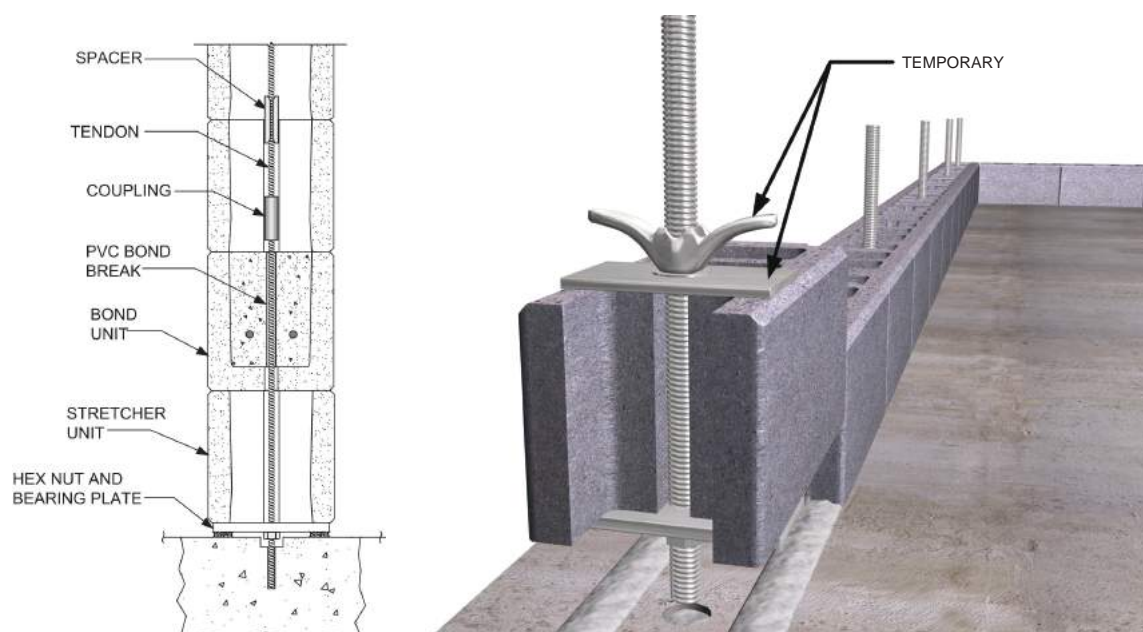
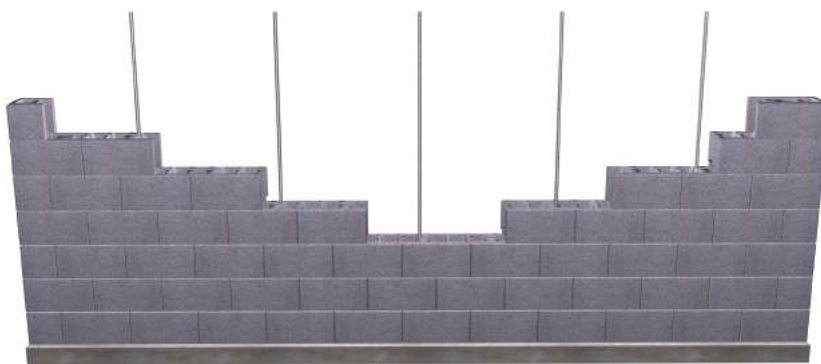

Fig. 4.11
Fig. 4.22
As indicated earlier, another means by which tendons can be anchored is the Bearing Plate Method (Fig. 4.11). This method accomplishes post-tensioning between a bearing plate under the first course and the top of a bond beam. The Bearing Plate Method is typically used when there is insufficient footing or slab depth to support the Footing Method.
3. Assemble the anchor assembly. This will consist of a 32" tendon, a bearing plate, and two hex nuts. The bearing plate is secured to the anchor tendon by sandwiching it between the two hex nuts. The placement of the bearing plate in relation to the anchor tendon will depend on whether the tendon will extend below the plate and into the footing. This configuration is used to pin the wall in place preventing lateral movement (Fig. 4.11).
7. Lay the remaining block of the first course using the procedure found in Step 5 - Laying the First Course. Ensure that when placing the plate of the anchor assembly beneath the unit, no mortar gets between the plate and unit. One way to do this is to temporarily secure the anchor assembly to the unit using a second plate on top of the unit with a wing nut (*Fig. 4.11*). If the tendon extends below the plate and into the footing, place a sufficient quantity of mortar in the hole to eliminate drift.
9. Using the One Forward, One Back Method (described in Step 5 - Laying the First Course) dry-stack the second course with bond units modifying them as necessary to allow anchor tendons to pass through. Place a PVC bond break around each of the anchor tendons and stuff grout stop around the base of the bond break to keep the grout from flowing out. Reinforce the bond course with two #5 rebar and grout solid to ¼" below the top of the unit (*Fig. 4.11*). Make sure that the top of the shells on the bond course are completely free of any grout or foreign materials.
Continue to build the corner leads and lay up the courses alternating their orientation at each course. If the Bearing Plate Method is used, the second course must be fully grouted (*Fig 4.11*). Remember to install the bond breaker before grouting. If the tendons are spaced properly and the block are alternated at each course, the tendon will be aligned with the slot in each block as the wall goes up (*Fig 4.22*). Consult the drawings regularly for the placement of doors and windows. Should it be required, water and electrical conduit can be run during wall assembly. For more information see Chapter 5, Section E of this Guide.